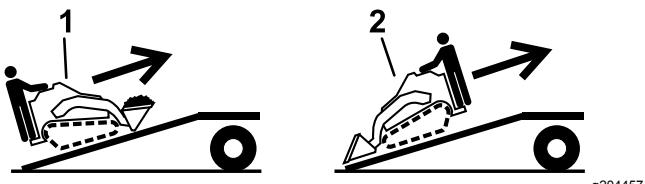

Figure 35
5. Load the machine onto the trailer with the heavy end up the ramp, carrying loads low (Figure 35).
1. Lower the ramp, ensuring that the angle between the ramp and the ground does not exceed 15 degrees (Figure 35).